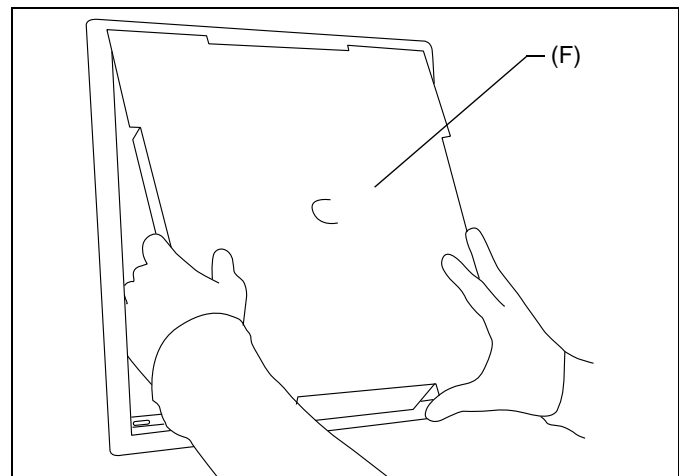

Figure 13
1. Fold tabs of template (F) in and insert into PAC527 opening. (See Figure 13)